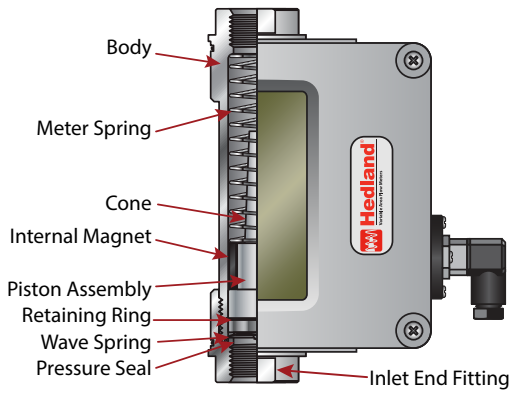

Figure 14: Cartridge components
4. Remove the inlet port wave spring, retaining ring, and cone from the body (see *"Figure 14: Cartridge components"* on page 20).